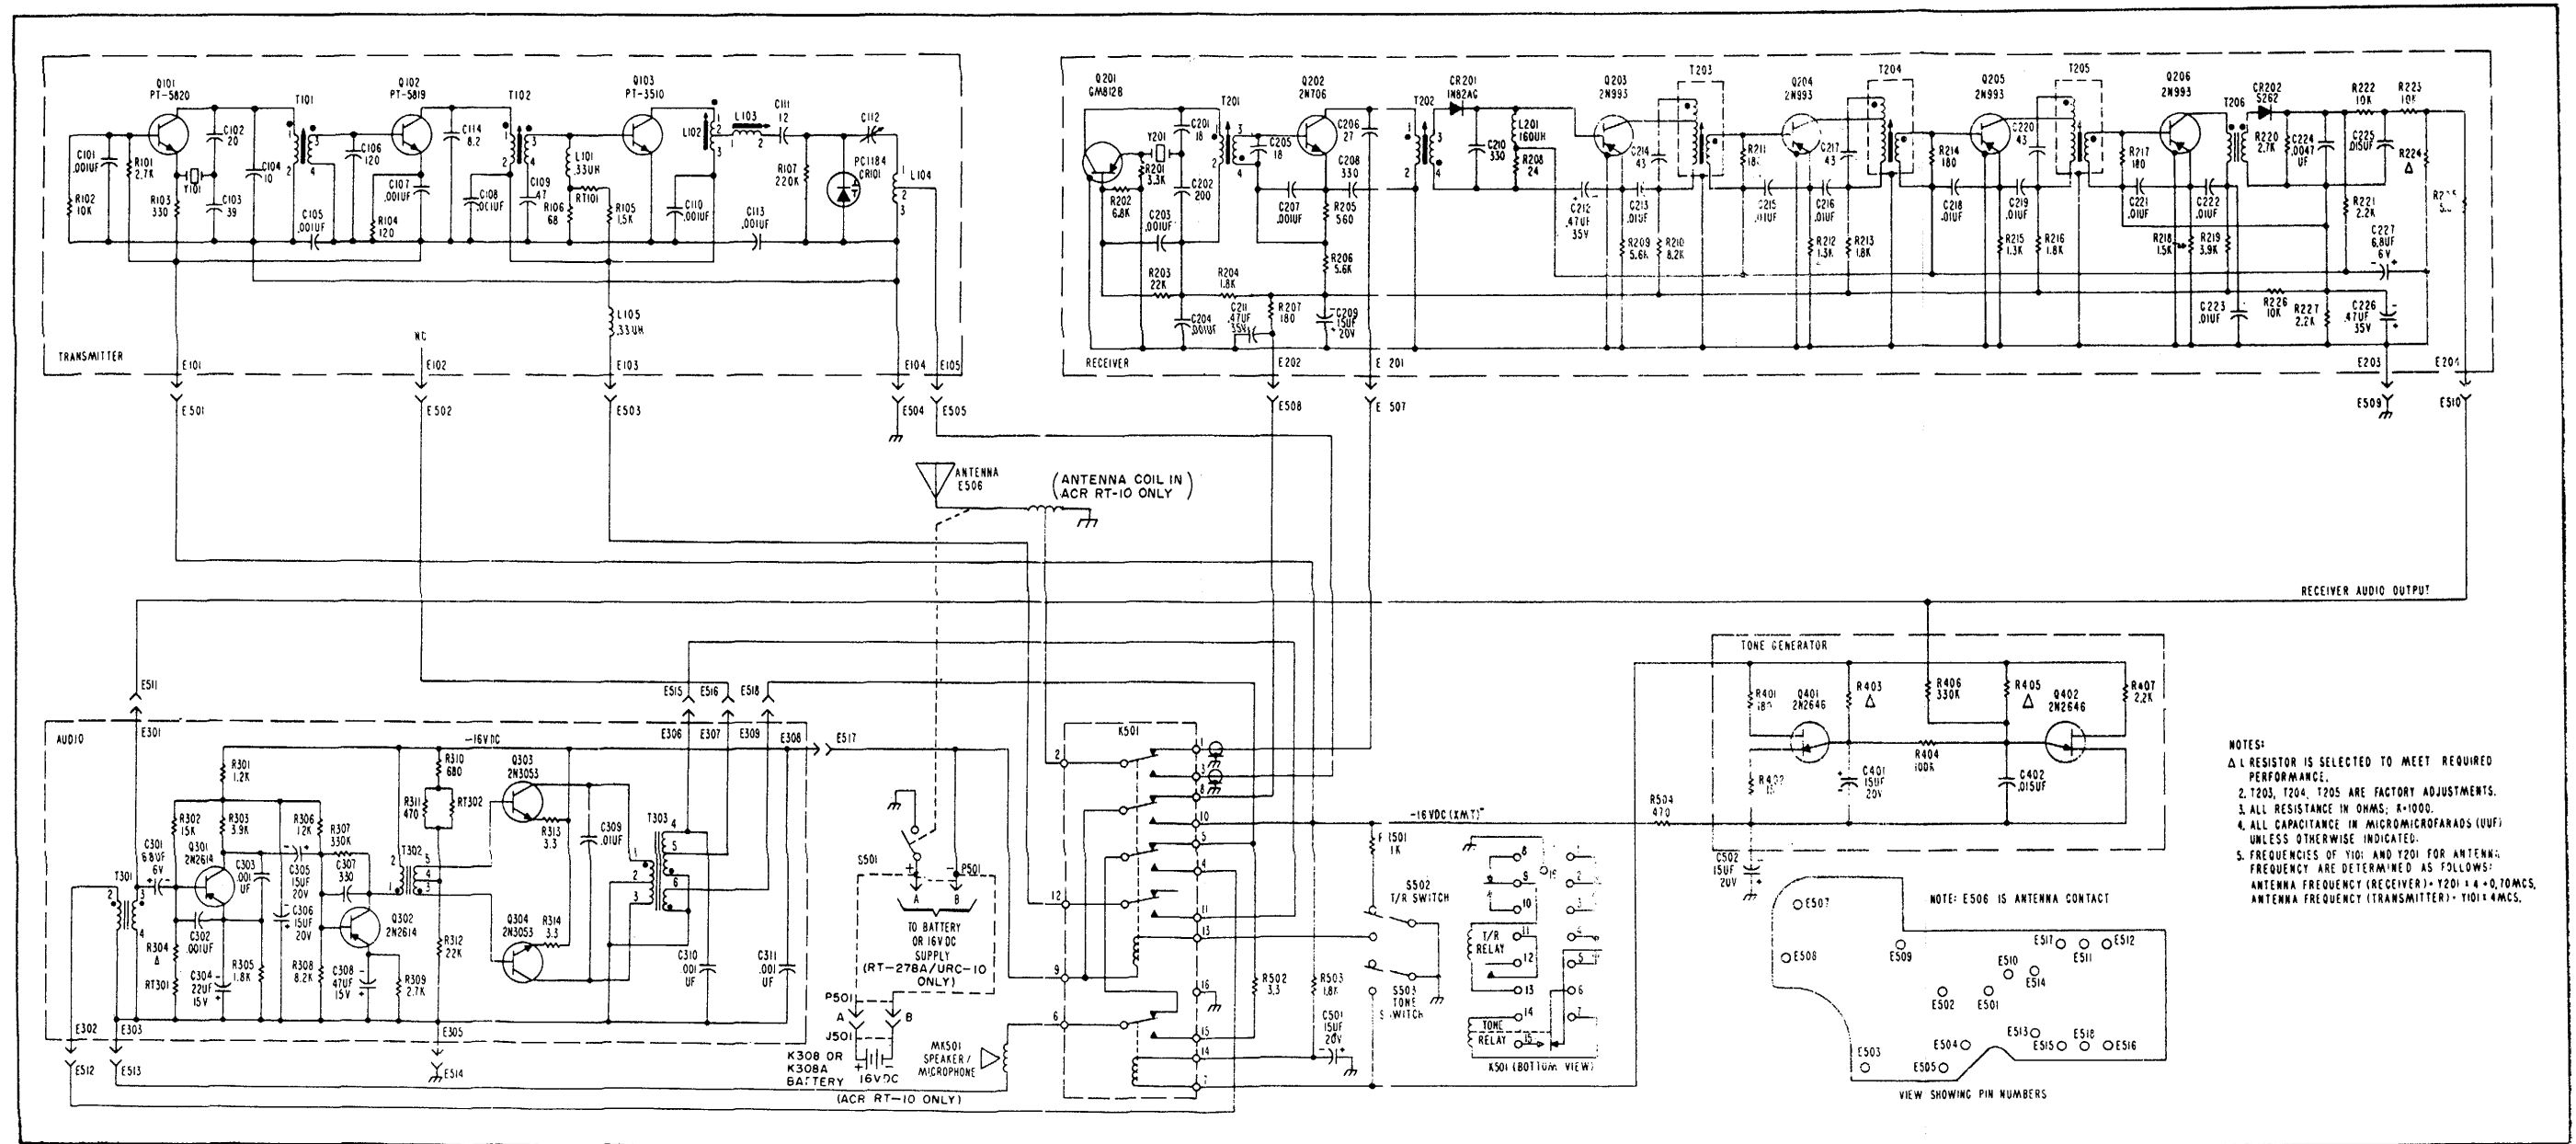
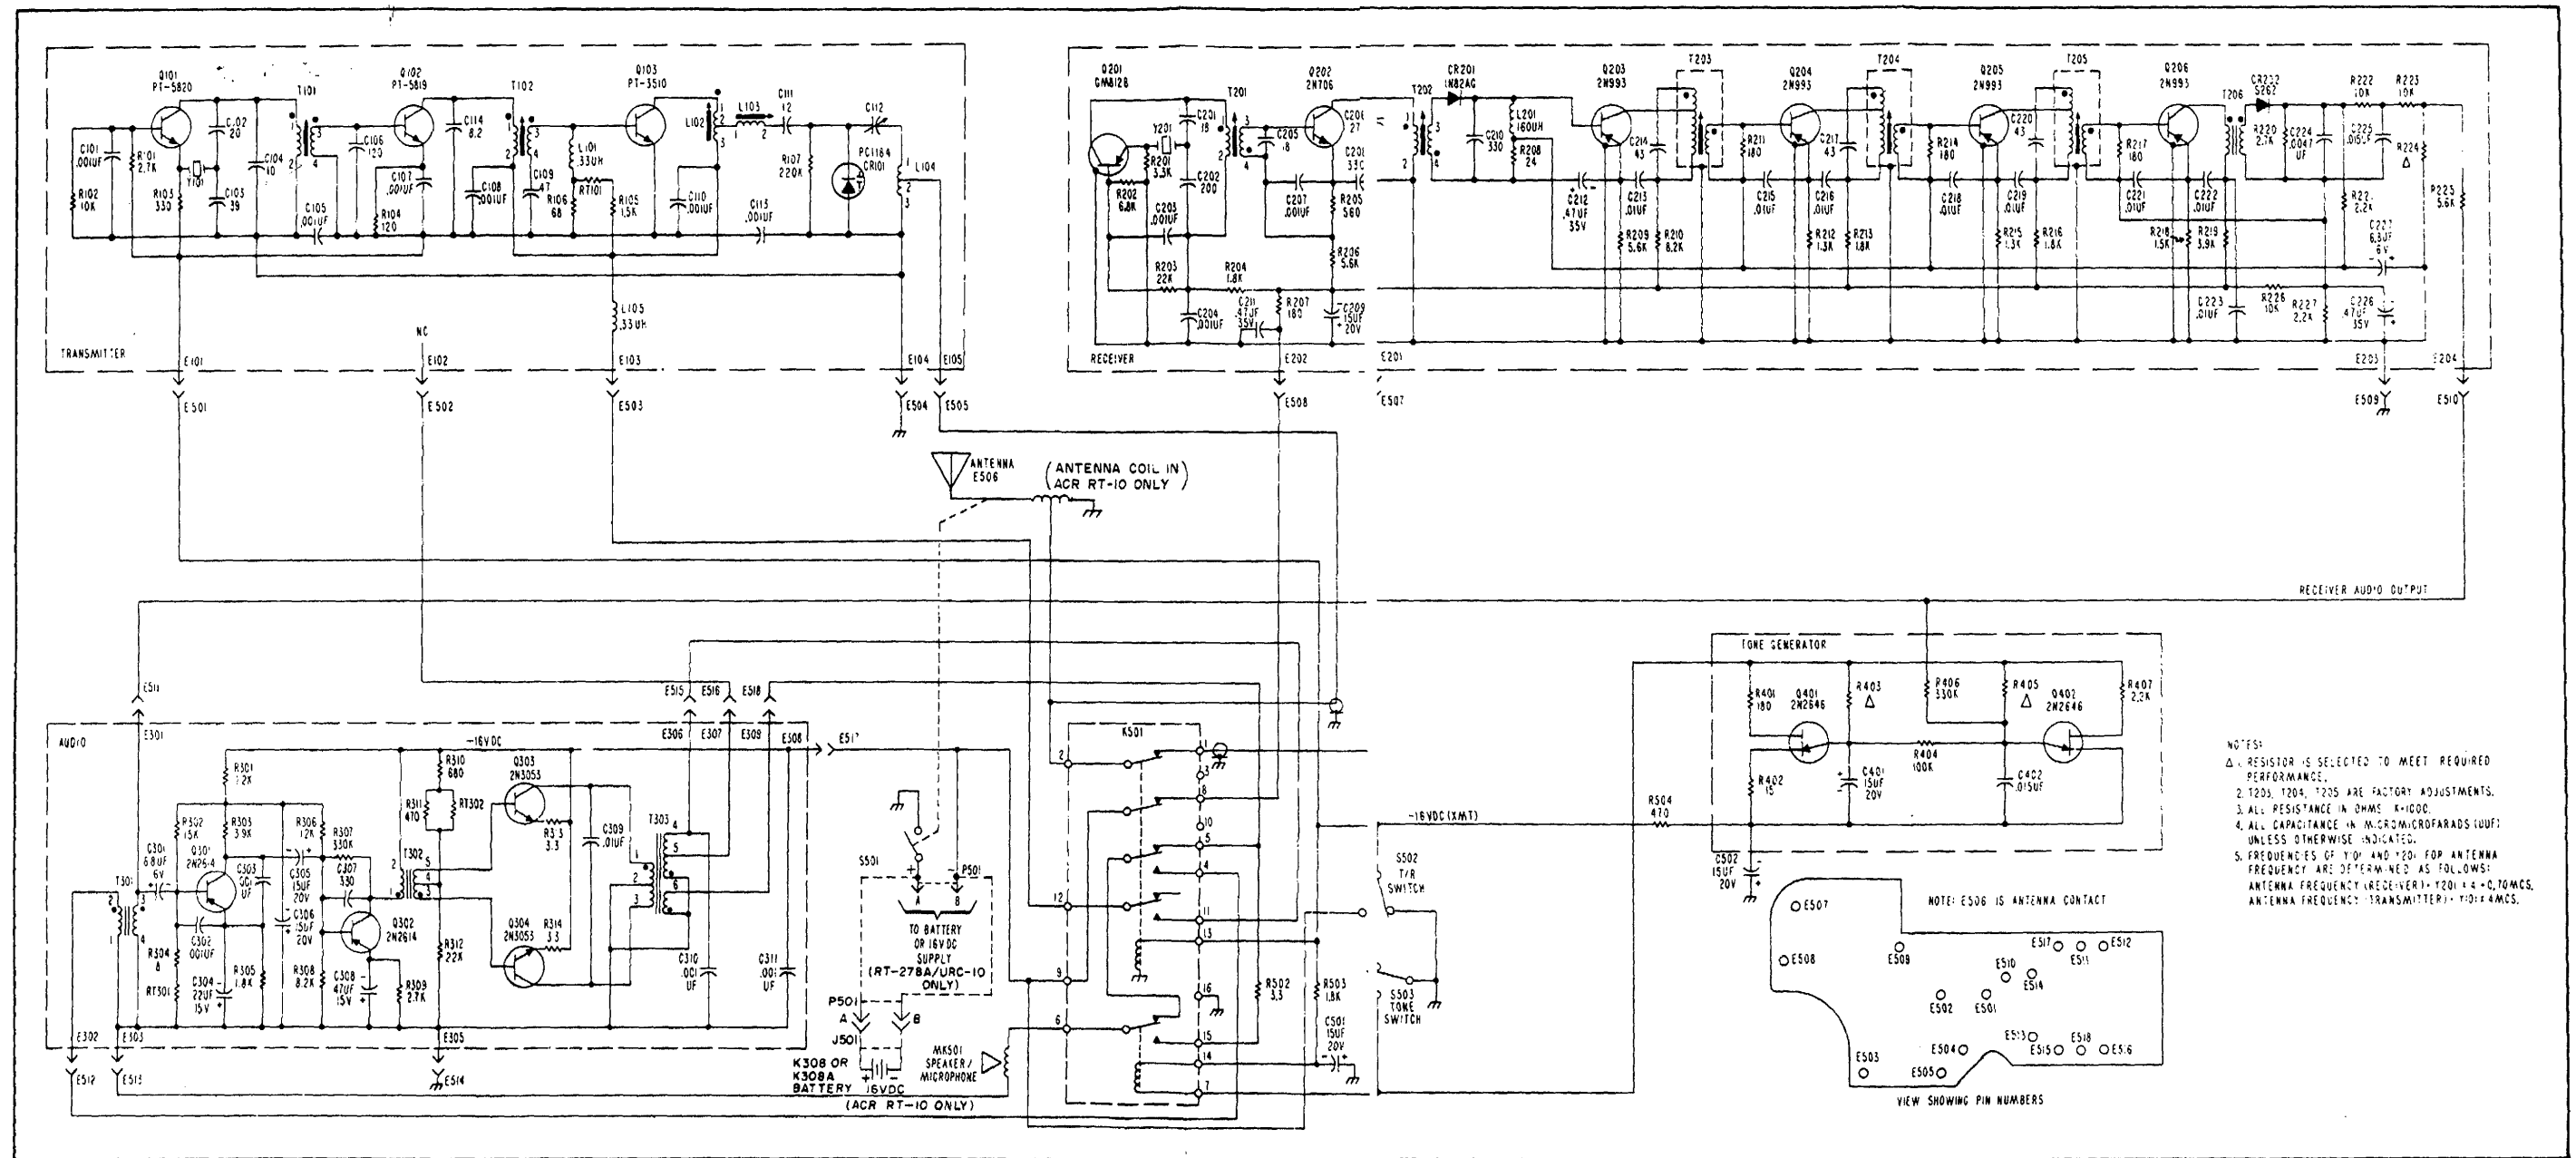
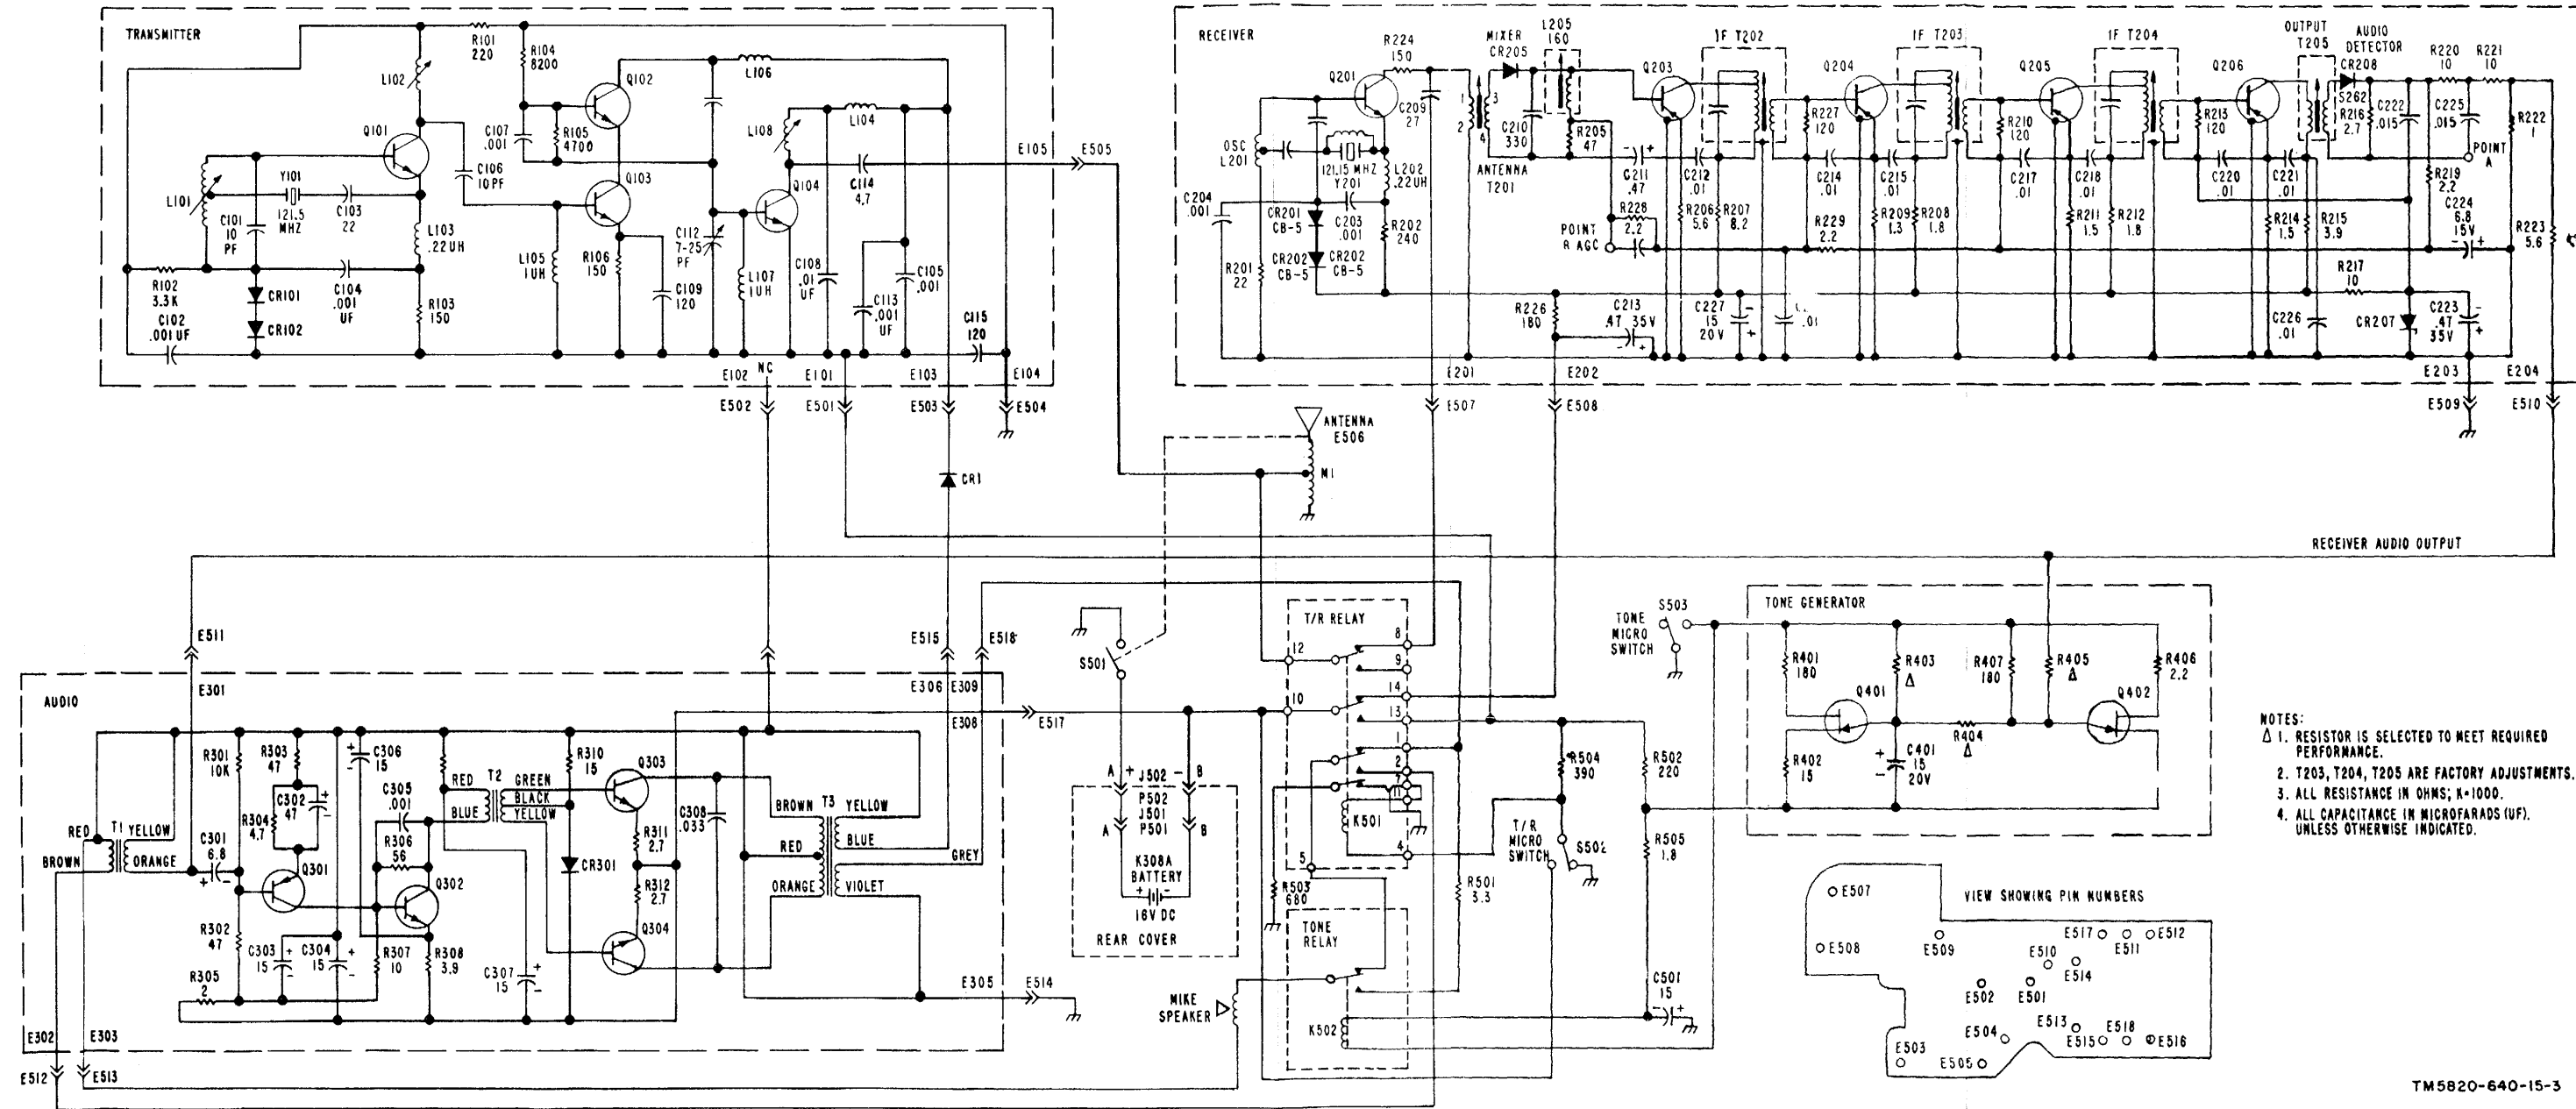

Figure 4-14. Receiver-Transmitter RT-278A/URC-10 and ACR RT-10, Schematic Diagram (Units of Serial Number 1 thru 6772)
Figure 4-15. Receiver-Transmitter RT-278A/URC-10 and ACR RT-10, Schematic Diagram (Units of Serial Number 6773 and up)
Figure 4-16. Receiver-Transmitter RT-278B/URC-10A, schematic diagram
**4-2.** This section describes theory of operation of radio sets RT-278/URC-10 (fig. 4-13), RT-278A/URC-10 (fig. 4-14), ACR RT-10 (fig. 4-15), and RT-278B/URC-10A (fig. 4-16). The radio sets are completely transistorized and all major circuit functions are provided by encapsulated modules.
**4-11.** Refer to figure 4-14. When the antenna is extended, switch S501 closes to connect the -16 VDC power to the circuits. With neither the t/r switch S502 nor tone switch S503 operated, relay K501 contacts are in the positions shown in figure 4-14 and the receiver module stages receive operating power at this time. Receiver hiss can be heard from the speaker/microphone MK501 at this time.
**4-20.** If the swept tone is to be transmitted without monitoring, then the tone switch button only is operated, as instructed on the radio set instruction plate. This action operates switch S503, then switch S502 in that order. When switch S503 operates first, it connects the ground end of the tone relay coil, and connects the tone generator stages to ground as before. However, since S502 has not operated at this time, the t/r relay contacts are in the positions shown in figure 4-14 and the -16 VDC has not been applied through R503 to capacitor C501. No charge exists then on C501.
**4-21.** When switch S502 now operates the t/r relay section switches to its transmit position as before and -16 VDC is fed through R503. Capacitor C501 charges to the voltage level determined by divider action of R503 and the resistance of the tone relay coil. However, the current flowing through the tone relay coil during this mode never becomes large enough to cause pull-in of the relay section. Contacts of the tone relay section then remain in the positions shown in figure 4-14. Analysis of the circuits under these conditions shows that the tone generator circuit is energized and that its swept tone output is applied to the audio module input as before. The transmitter module is energized, and RF output signal (modulated by the swept tone) is produced at the antenna output at this time. The speaker/microphone MK501 is connected to the primary of T301 in the audio module during this mode, and the swept tone signal is not heard from the speaker/microphone. Resistor R501, in conjunction with R502, discharges capacitor C501 during receive operation, to insure that C501 has no charge voltage accumulated prior to operation of the switches S502 and S503 to their transmission (and/or tone) positions.
**4-23.** For units of serial number 6773 and up, wiring changes were made for relay K501 and switch S502, to obtain more reliable operation of the units. Figure 4-15 shows the schematic diagram of these wiring differences. Operation of the units is the same as those of serial number 6772 or less, but electrical switching action differs slightly. First, the antenna connection E506 is no longer switched between the transmitter module output, and the receiver module input for transmit and
**4-27.** Figure 4-16 is a schematic diagram of radio set RT-278B/URC-10A. Although the overall operation of the radio set is identical with that of the three prior versions, covered in the previous paragraphs, there are differences in the relay circuits and in the circuit configuration of the modules.